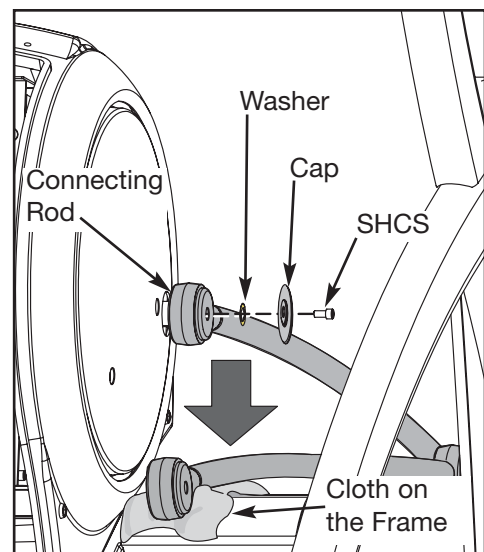

Figure 4
- A. Using a 3/16" Allen wrench, remove the Cap, SHCS and spacer securing the linkage rod. See Figure 4.
- A. Using a 3/16" Allen wrench, attach the screw securing each connecting rod to each crank. See Figure 4.